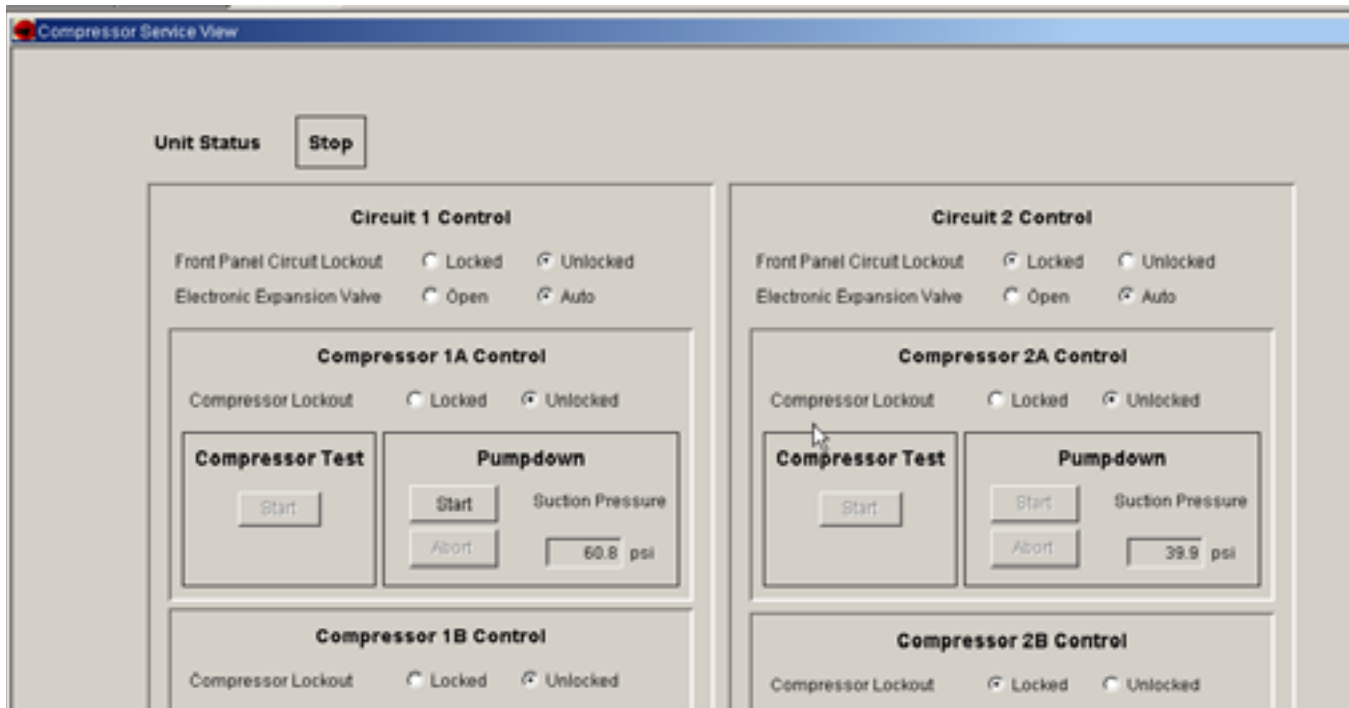

Figure 36.: Compressor Service View RTAC
- 2 Lock out the circuit. This can be done using DynaView under the setpoint tab or in TechView under the Compressor Service View. Refer to Figure 36. With the circuit shut down the valve should go to the closed position. Note the EXV position.
- 3 Using TechView under Compressor Service View, open the EXV. Look at the EXV position. The valve should go to the open position. Refer to Figure 36.